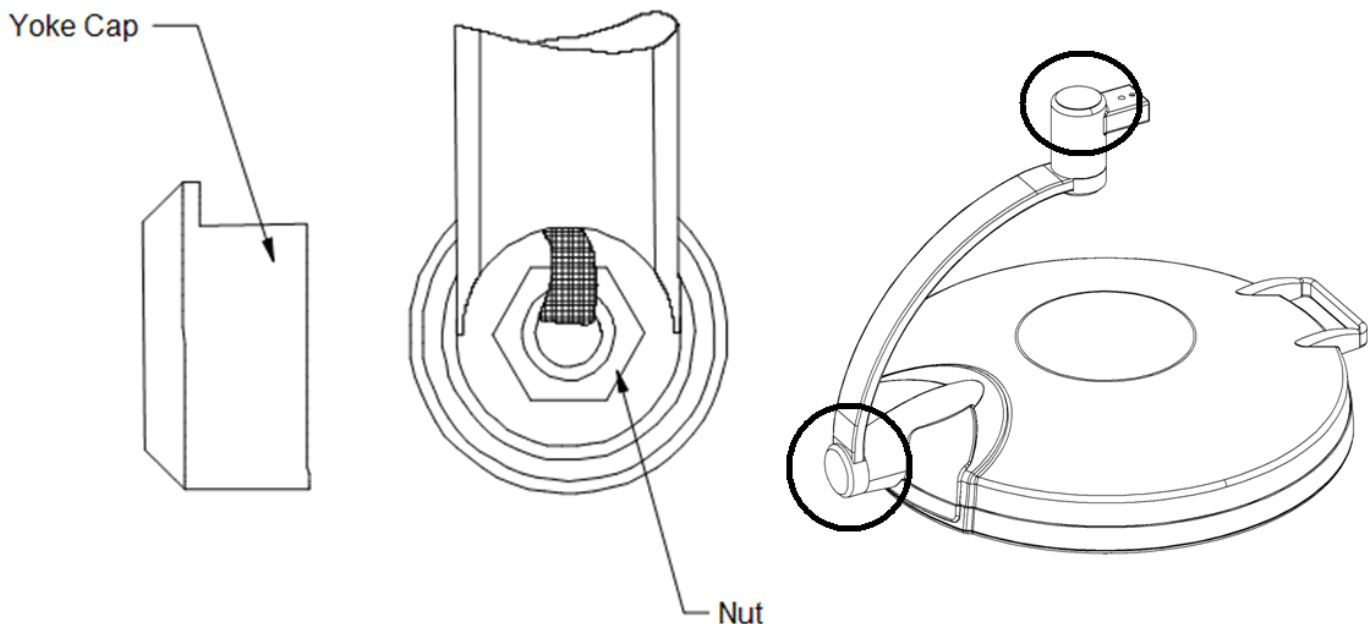

Figure 35. Head / Yoke Adjustment
- Find the yoke cap as shown in a heavy circle below. See Figure 35. Head / Yoke Adjustment.